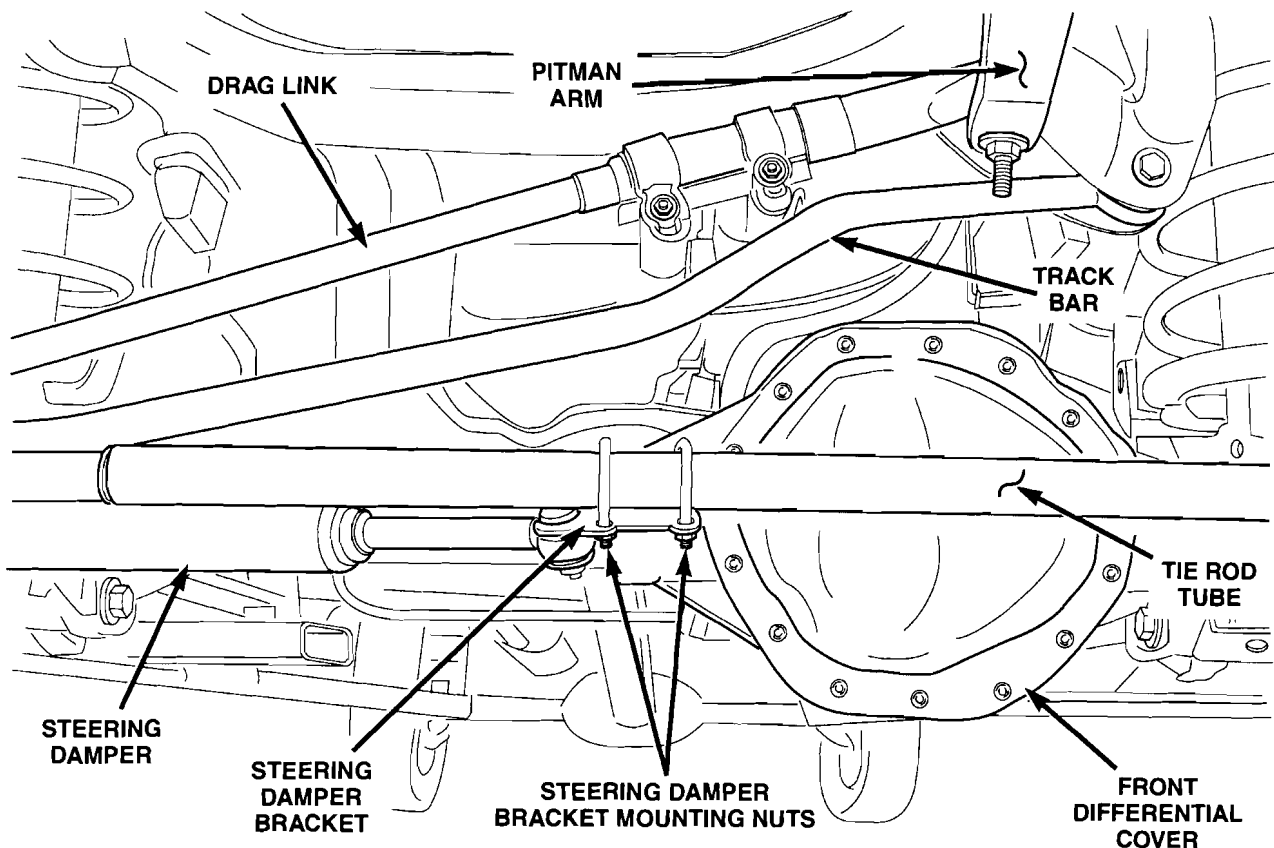

Figure 1
2. Inspect the steering damper bracket mounting nuts by putting a 13 mm box-end wrench onto the nut (Figure 1):